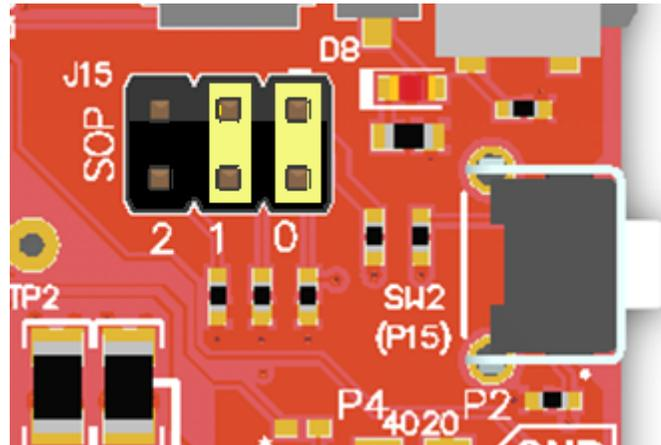

Figure 10. SOP Jumpers Configuration
1. Set the SOP to 011 (SOP2 = 0, SOP1 = 1, SOP0 = 1), and perform power on reset (POR). Device reset can be simply done by pressing SW1 Reset switch. See Figure 10 for reference of SOP jumpers.